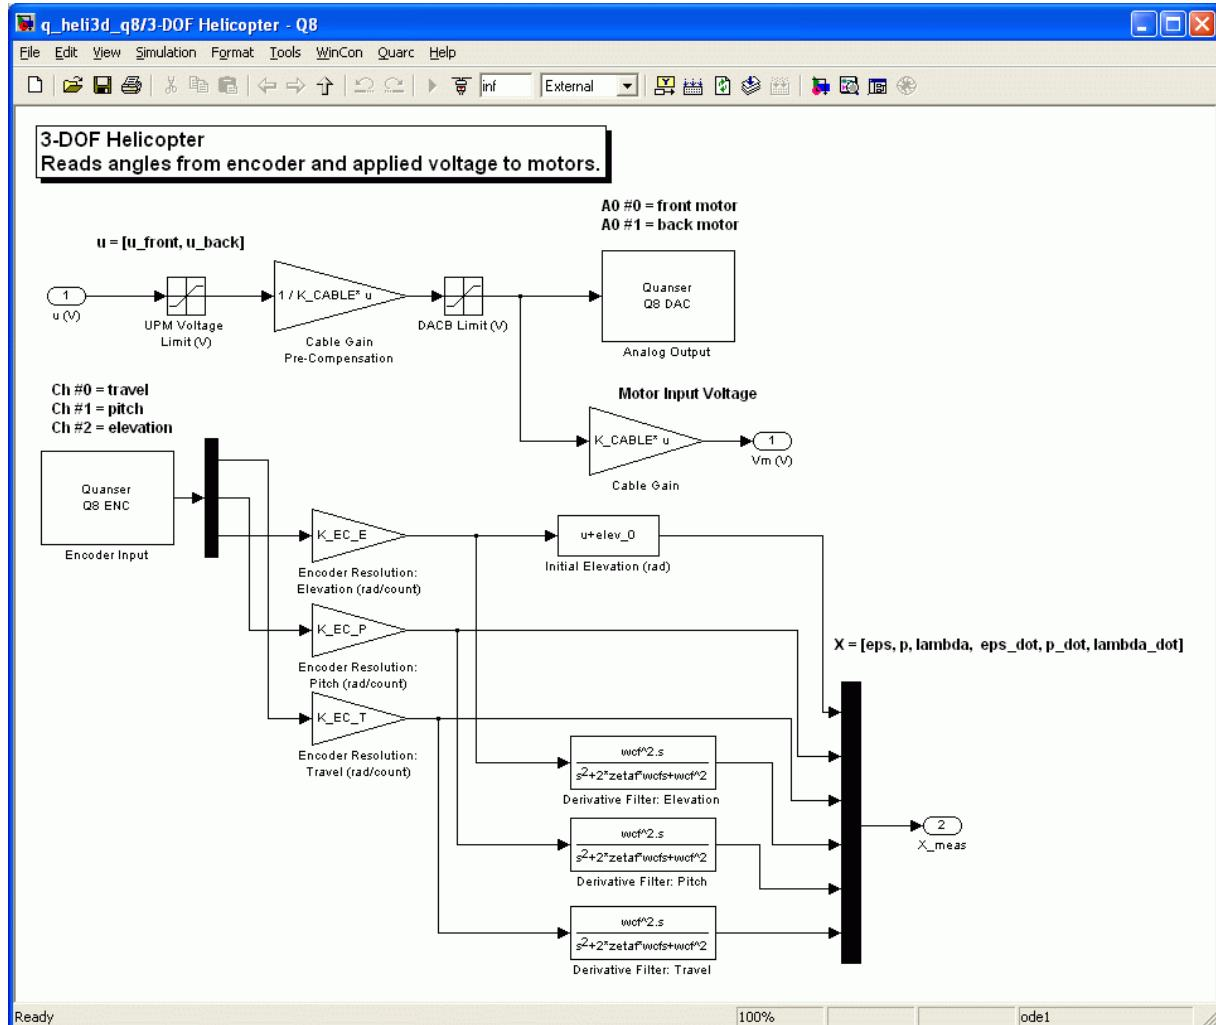

Figure 29: 3-DOF Helicopter - Q8 subsystem used to interface with hardware.
4. Figure 29 illustrates the inside of the *3-DOF Helicopter - Q8* subsystem. It contains the WinCon blocks that interface with the hardware of the actual plant. The Analog Output block outputs the voltage computed by the controller to the Q8 DACB and the Encoder Input block reads the encoder measurements.